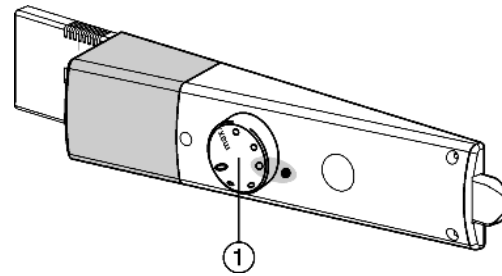

Fig. 2
- ▶ Turn the temperature control *Fig. 2 (1)* to the right, from the 0 setting to point 3.
- ▶ Turn the temperature control *Fig. 2 (1)*.